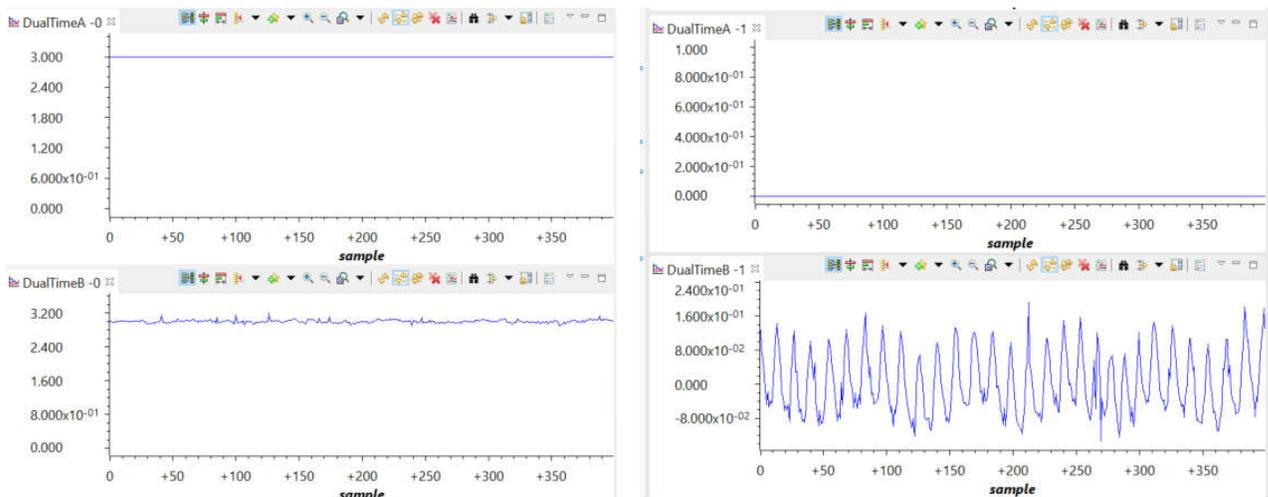

Figure 38: Id and Iq reference and feedback current datalog waveforms
Step 3: Connect the inputs of the datalog module as shown in the code snippet below. The datalog graphs for Id and Iq PI reference and feedback signals are shown in **Figure 38**.